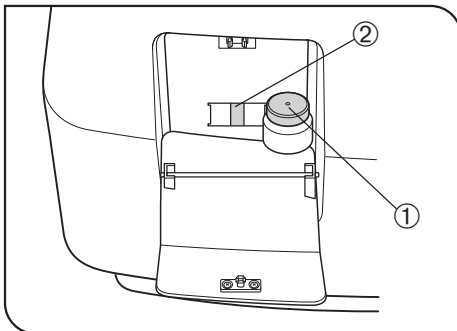

Fig. 5
**Water Injection in the Objective Water Tank (Fig. 5)**